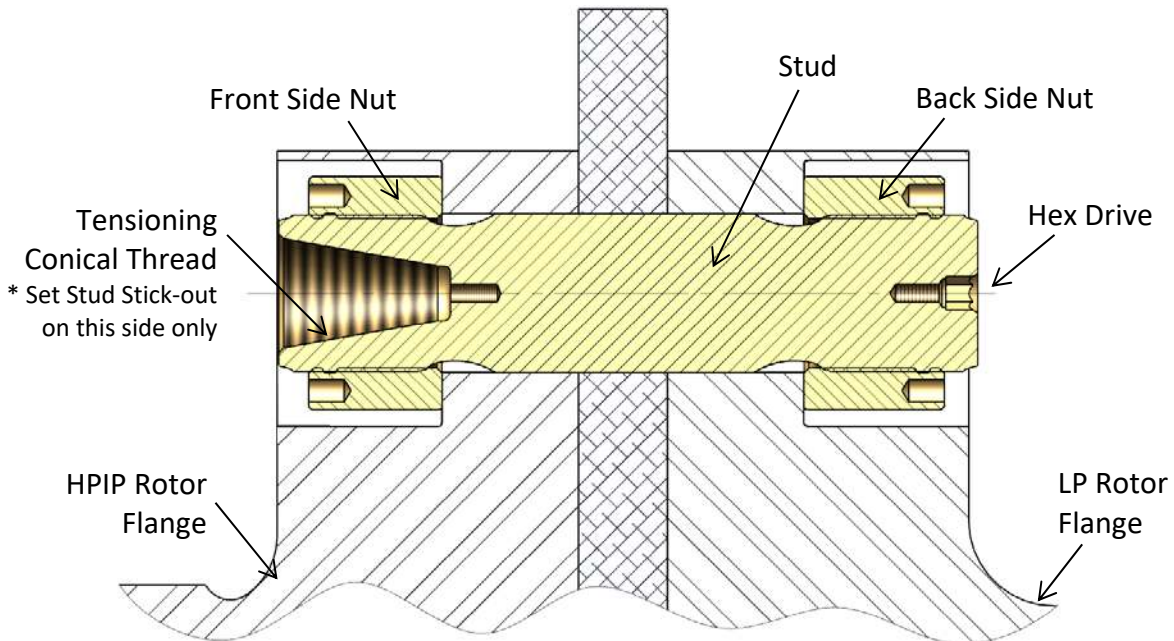

Figure 6A – Cross-section View of Steam Turbine HPIP Rotor to LP Rotor Bolted Flange Connection
- Slide the stud and cylindrical nut assembly into the flange as shown in Figure 6A.